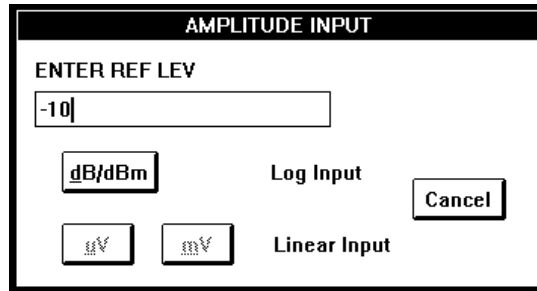

Figure 5-5: Typical Amplitude Input Dialog Box
2. Select **Reference Level** from the **Amplitude Options** list. This will open the **Amplitude Input** dialog box (Figure 5-5: Typical Amplitude Input Dialog Box) and prompt you to enter a reference level value. Enter the desired reference value in dBm and then click **dB/dBm** for the newly entered value to take effect.
Figure 5-5 above shows a typical **Amplitude Input** dialog box.
3. Select **Auto** for an automatic noise varying threshold or, **Set...** to set a fixed constant level threshold. This will open the **Amplitude Input** dialog box (Figure 5-5) and prompt you to enter a fixed **Threshold Level** in dB.